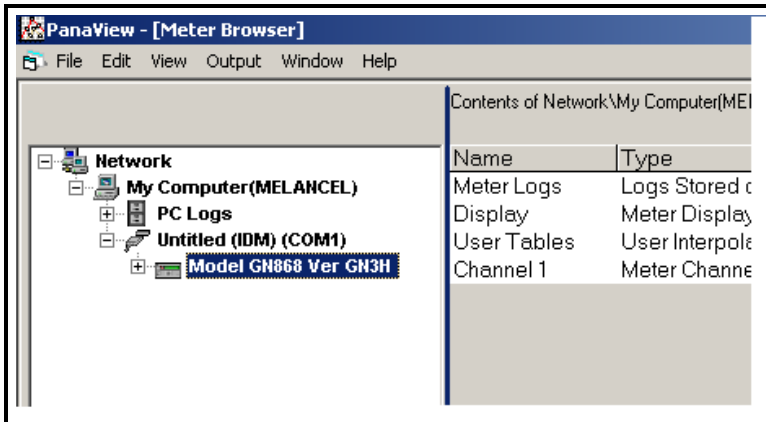

Figure 5-7: The Meter Branch
2. Fully expand the *network tree* and highlight the chosen meter (see Figure 5-7 below).